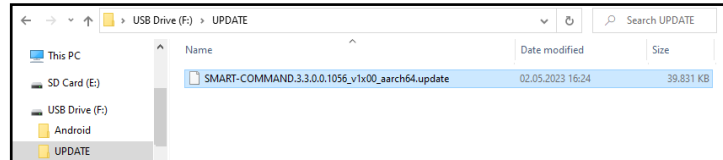

Fig. 116: Update folder with update file on USB stick
4. Save the downloaded file in the "UPDATE" folder (see Fig. 116).